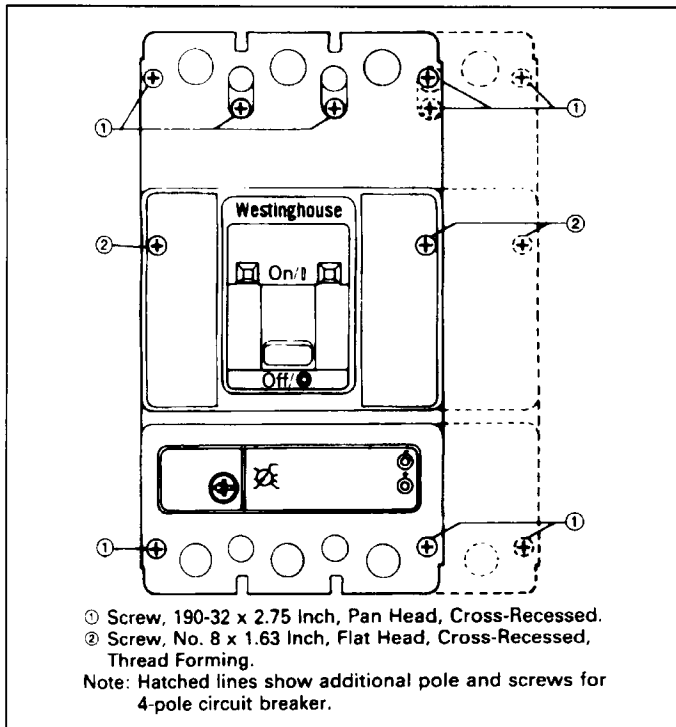

Fig. 2-6. Cover Screw Installation Positions
- 2-7. With circuit breaker handle in TRIP position and accessory pigtails (if used) routed as required, install circuit breaker cover. Secure with pan-head screws followed by thread-forming screws, as shown in Fig. 2-6.